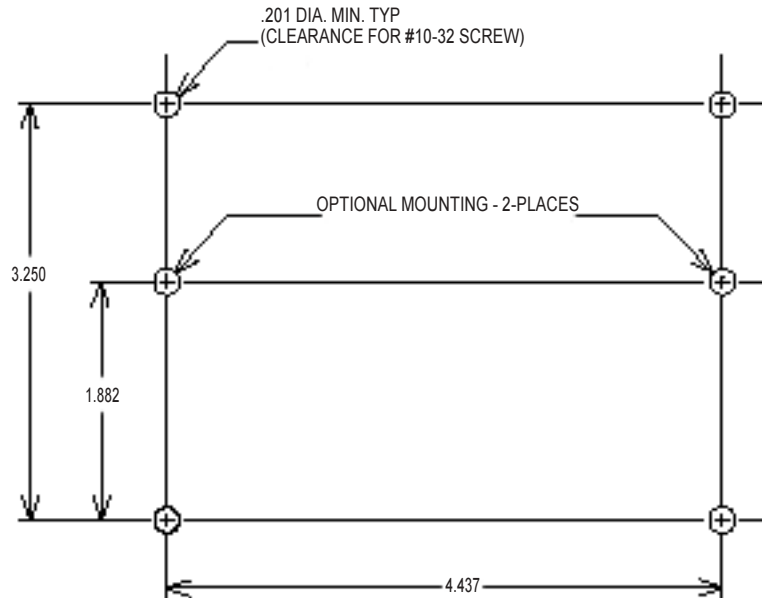

Figure A5 - Mounting hole pattern for use with optional mounting bracket
- 14.1.2 Optional mounting bracket OMEGA part number RTU-25104600 is available for **DATAFLOW RTU**. To install this bracket to the case, remove and save the four thread-forming screws described in paragraph 14.1 to attach the mounting bracket to the case. Be sure the narrow portion of the keyhole is positioned towards the top (UHF antenna connector) of the **DATAFLOW RTU**. Use the recommended hole pattern for the optional mounting bracket shown in Figure A5.